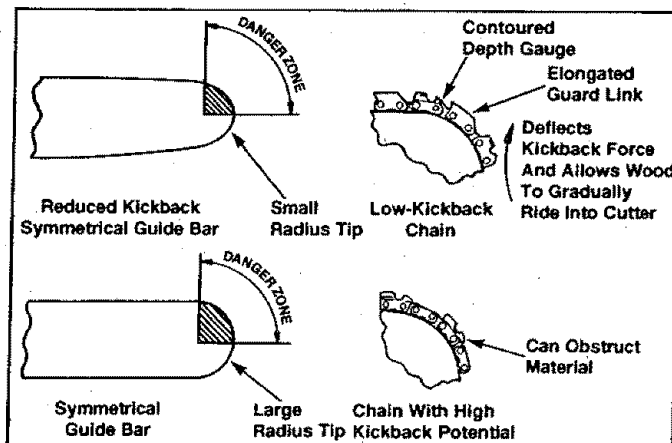

Figure 5
- **Reduced-Kickback Guide Bar**, designed with a small radius tip which reduces the size of the kickback danger zone on the guide bar tip. Figure 5. A Reduced-Kickback Guide Bar is one which has been demonstrated to significantly reduce the number and seriousness of kickbacks when tested in accordance with ANSI B175.1-1991.
- **Low-Kickback Chain**, designed with a contoured depth gauge and guard link which deflects kickback force and allow wood to gradually ride into the cutter. Figure 5. Low-Kickback Chain is chain which has met kickback performance requirements of ANSI B175.1 when tested on a representative sample of chain saws below 3.8 cubic inch displacement specified in ANSI B175.1